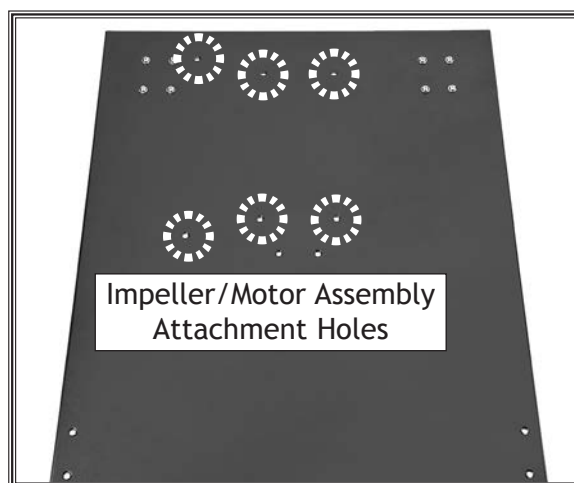

Figure 6. Location of impeller/ motor assembly attachment holes.
3. With assistance from another person, turn impeller/ motor assembly right side up and position it over attachment holes on base plate (see **Figure 6**).